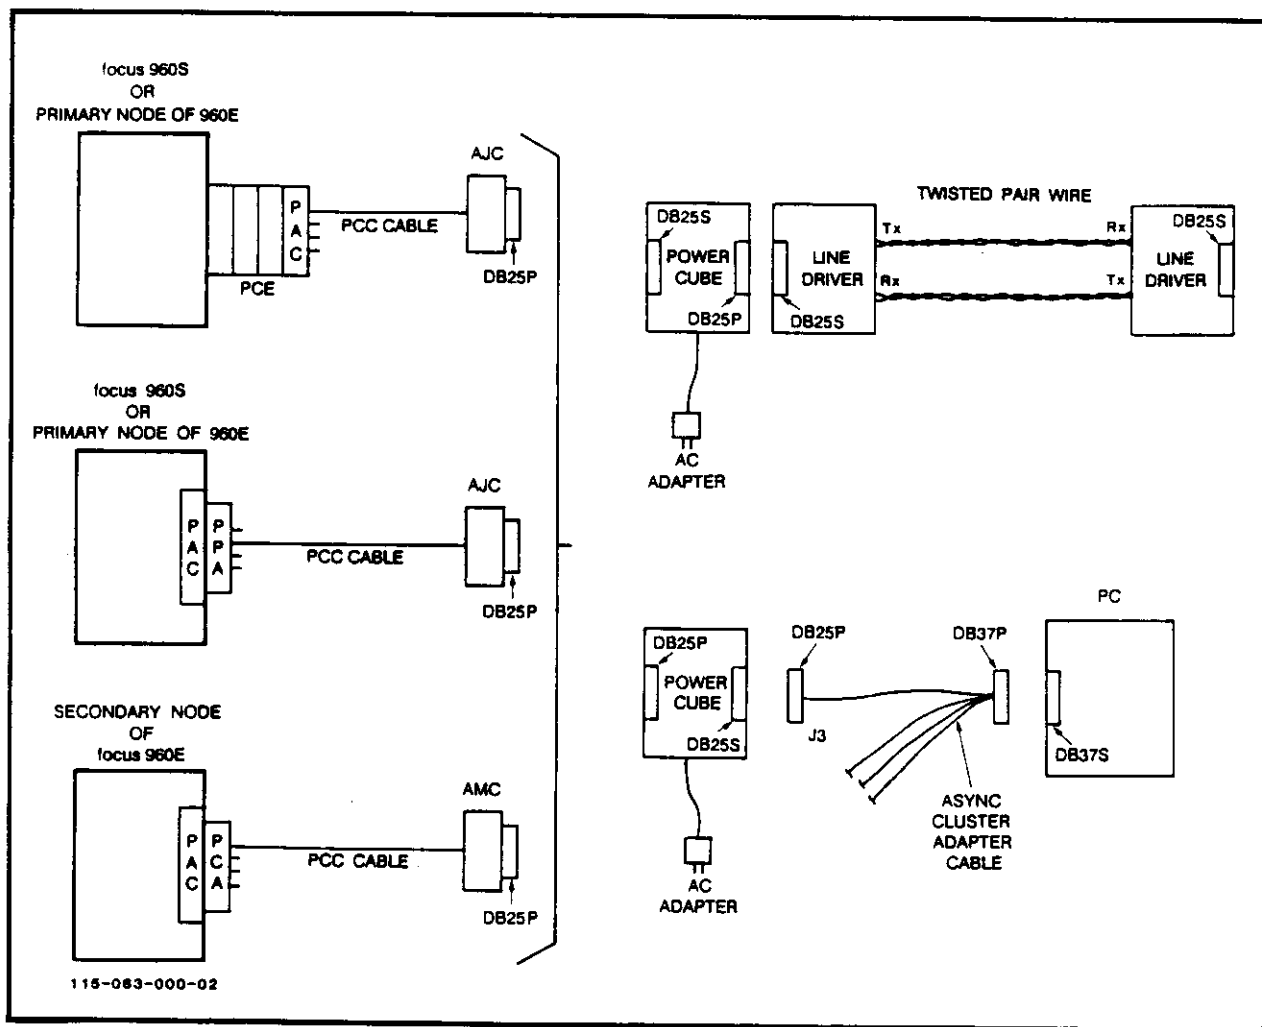

Figure 3-12. Remote PII Connection
8.02 If you have a remote cable kit, refer to Figure 3-12 and follow the steps below to connect it.
2. Plug the other end into either the AJC or AMC included with the cable kit. Refer to Figure 3-12 to determine the proper adapter to be used.